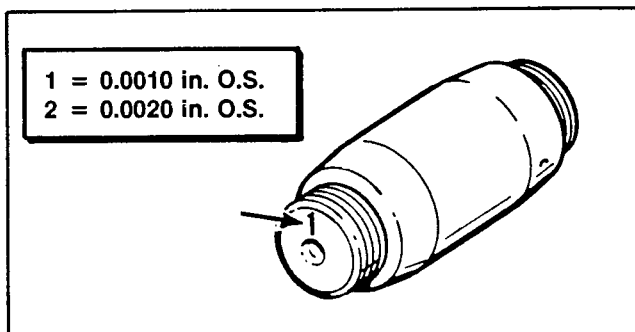

Figure 4. Oversize Crank Pin Identification
See Figure 4. Oversize (OS) crank pins are available in two oversizes: 0.0010 and 0.0020 in. OS crank pins will have a '1' or a '2' stamped on their ends. One (1) indicates 0.0010 in. OS, two (2) indicates 0.0020 in. OS. Standard size crankpins will not be marked.